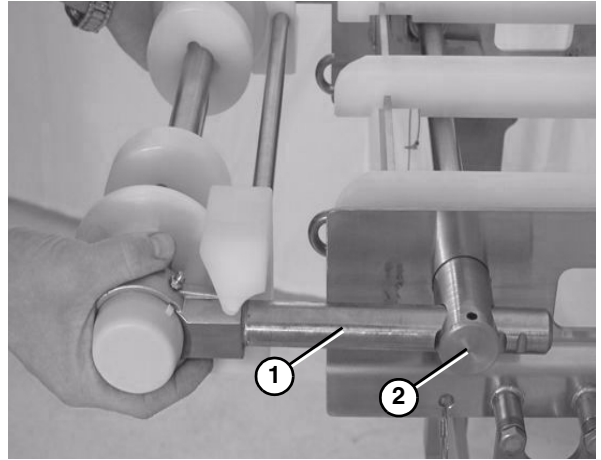

Figure 57
2. Slide the idler tail assembly (Figure 57, item 1) out of the take up blocks (Figure 57, item 2).